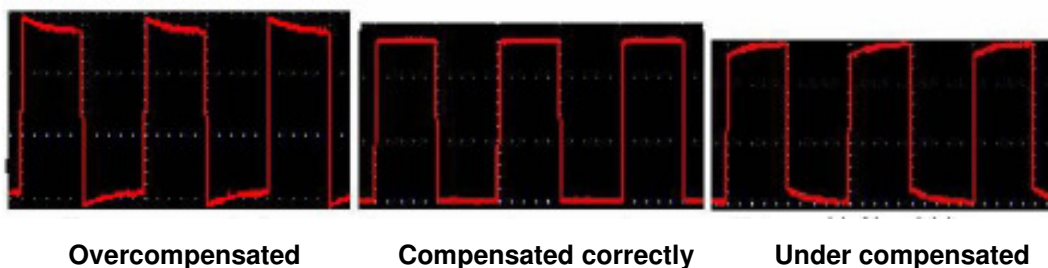
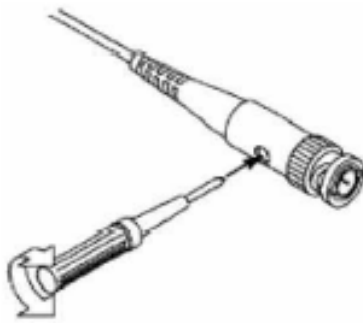

Fig. 7 Displayed Waveforms of the Probe Compensation
Fig. 8 Adjust Probe
2. Check the displayed waveforms and regulate the probe till a correct compensation is achieved (see **Fig. 7** and **Fig. 8**).